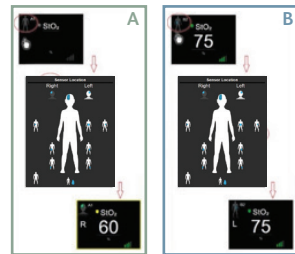
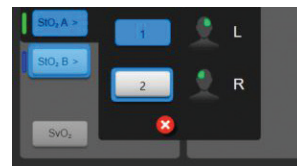

Figure 2
Figure 3
- 1 Touch the patient figure (Figure 2) to access **Sensor Location** tab.
- 2 Ensure correct body location is selected with corresponding sensor channel in **Sensor Location** tab (Figure 2).
- 3 Sensor channel appears in the upper left of the parameter tile (Figure 2). Select channel. Then select the appropriate StO_2 channel from tile configuration menu (Figure 3).